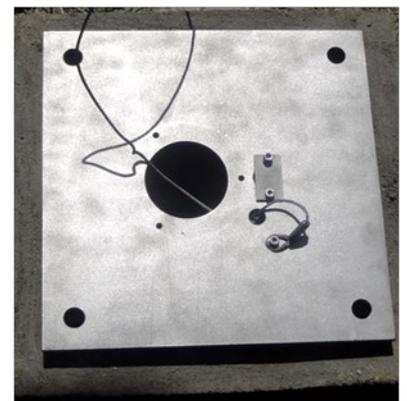

Figure 8-6: Holding plate fixed with sensor safety wire
8.7.4 Fix end loop of safety wire to the holding plate with the washer and Allen screw as per figure 8-6.